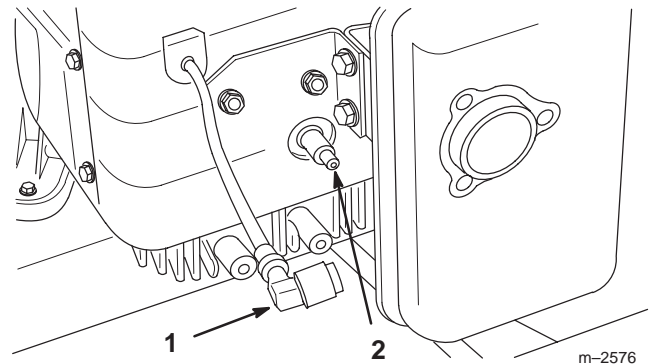

Figure 26
- Pull the wire(s) off the spark plug(s) (Fig. 26). Now clean around the spark plug(s) to prevent dirt from falling into the engine and potentially causing damage.
3. Push the wire(s) onto the spark plug(s) (Fig. 26).